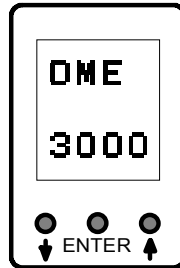

Fig. 1: DME 3000 display
The type designation of the device appears in the display when the supply voltage is connected (Fig. 1):
- Selected parameters or numeric inputs are confirmed with the ENTER key (Fig. 1).
The parameterization menu is called from the measurement mode by actuating the ▲ / ▼ key. To prevent unauthorized or inadvertent changes to the parameters, a code number must first be entered with the ▲ / ▼ keys and confirmed with ENTER (Fig. 1).